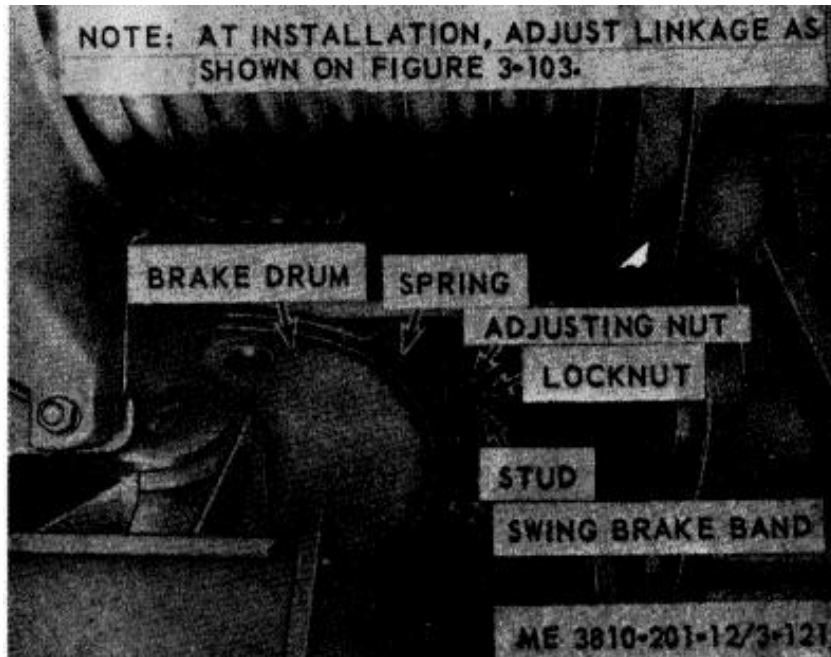

Figure 3-121. Swing brake band, removal and installation.
a. Removal and Installation. Refer to figure 3-121 and remove swing brake band. Install in reverse order.
(1) Clean all metal parts in an approved cleaning solvent and dry thoroughly. Wipe brake lining with a clean cloth, or blow clean with compressed air.
(2) Visually inspect all parts for damage, defect, or excessive wear.
(3) Repair by replacing damaged, or defective parts. Replace brake band when lining is worn to within 1/16 inch of rivet heads.